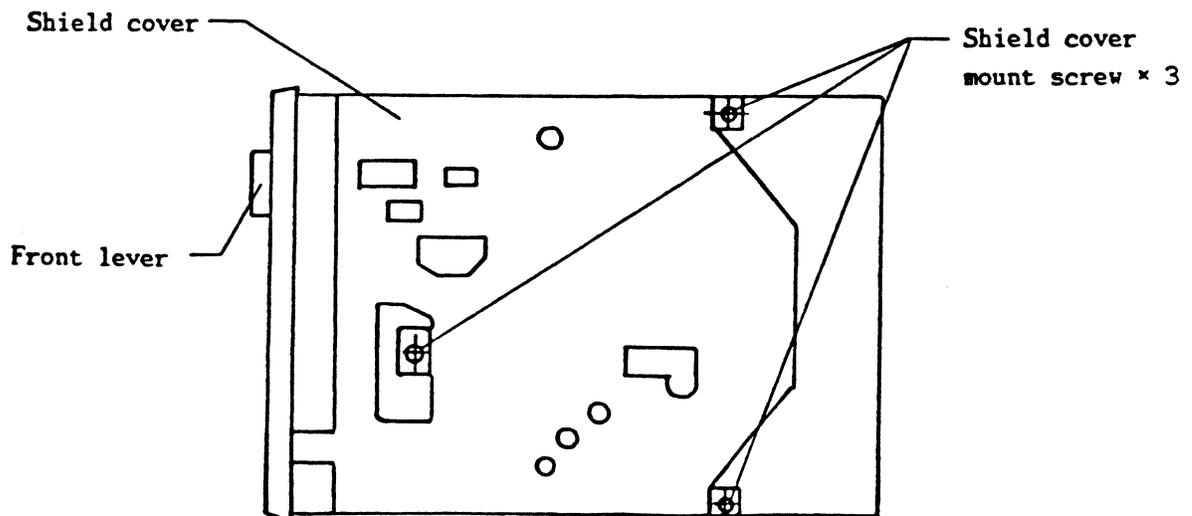

Fig. 407 Shield Cover Mount Screw Locations
- (1) Remove the 3 screws (refer to Fig.407) fastening the shield cover and remove the cover.
- (2) Loosen the 2 screws fastening the clamp holder assembly so that the clamp holder assembly can be moved with the hands.
- (3) Release the door lock cam, turn the front lever to clamp. For double side type, fasten with felt, etc., to prevent contact with the upper and lower heads.